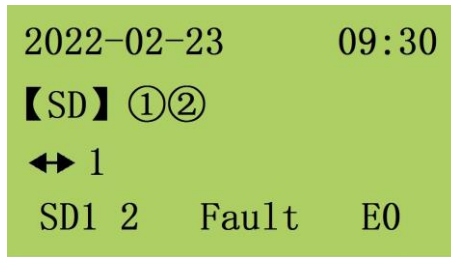

Figure17.b fault page of testing spark sensor
b. AMP-119A3 has the function of spark simulation test, press the “Function test” and enter into spark simulation test (as shown in chapter 3 2.3). Users also can press “清零” button for 3 seconds and the spark simulation test will be on automatically. If the result of spark sensor is good, the display page is shown in figure17.a, otherwise the display page is shown in figure17.b. Press the key “消警” to eliminate the faulty alarm.
Figure17 normal page of testing spark sensor